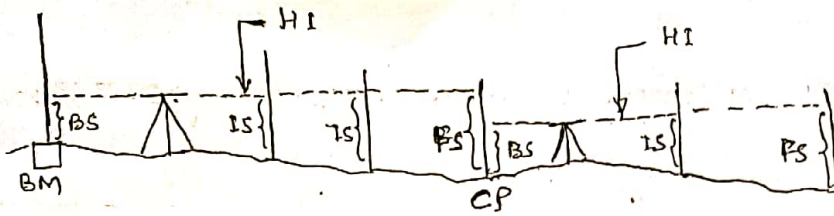

Fig 2
9. Intermediate Sight (I.S): This is any other staff reading between "back sight" and "fore sight". (Fig 2)
10. Change Point (C.P): It is a point indicating shifting of the instrument. It is the staff station on which "fore sight" is taken from one setup of instrument and "back sight" is taken from the next setup of instrument. It is also called as "Turning Point". (T.P) (Fig 2)